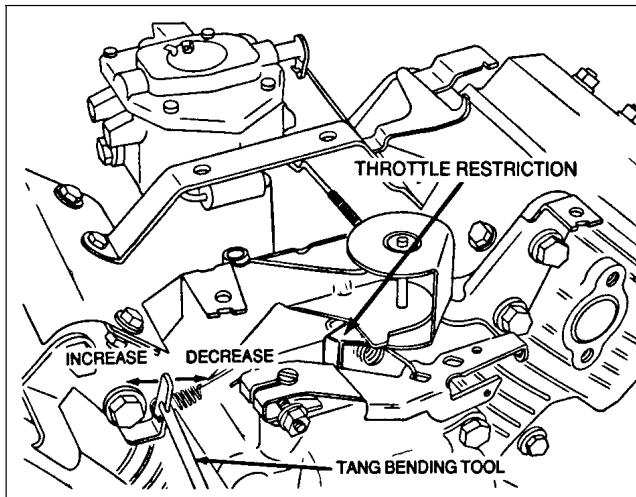

Figure 5
## Carburetor and Speed Control Adjustment (Fig. 5, 6)
1. Start engine and let it run at half throttle for approximately five (5) minutes to warm up.
5. With governor control lever in governed idle position (no tension on high speed spring) bend governed idle spring anchor tang to get a governed idle speed of  $1400 \pm$  RPM (Fig. 5).